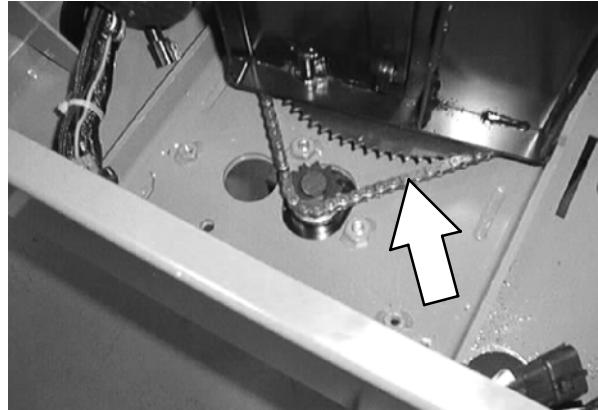

FIG. 14
23. Use the master link to reinstall the steering chain onto the machine. Refer to Fig. 14.